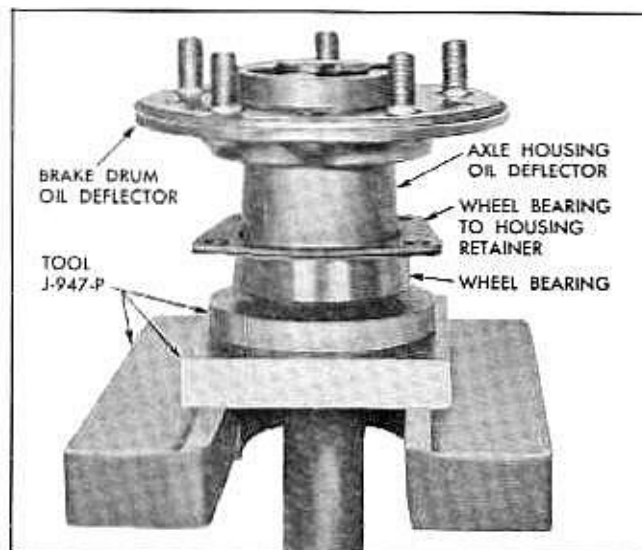

Fig. 4-11 Bearing Replacer Tool J-947 in Place for Pressing Bearing on Shaft
4. If removed, install oil deflector and bearing retainer plate and gasket on shaft. Install bearing on shaft using tool J-947-P to bear only on inner race and press bearing firmly against shoulder on shaft (Fig. 4-11).